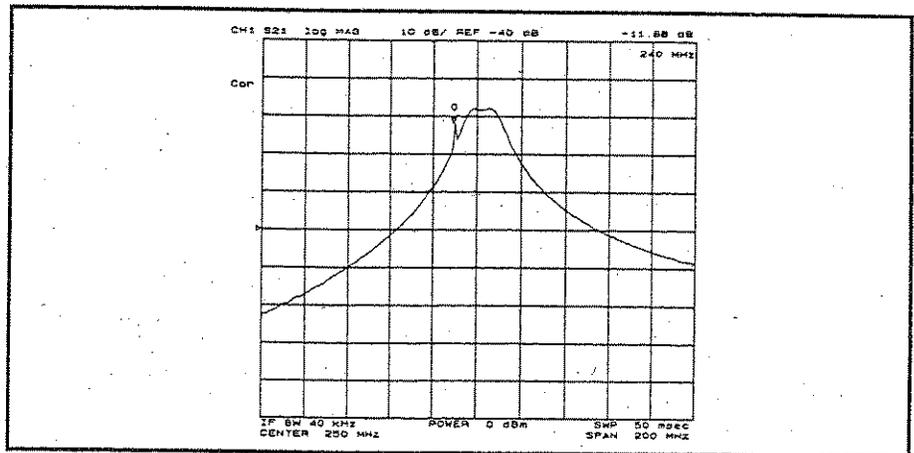

Figure 3-9. Transmission Measurement Result (Influenced by Leakage)
2. Press **[Search]** **PEAK** to put the marker on an unknown peak of the trace. The transmission measurement result is displayed as shown in Figure 3-9.